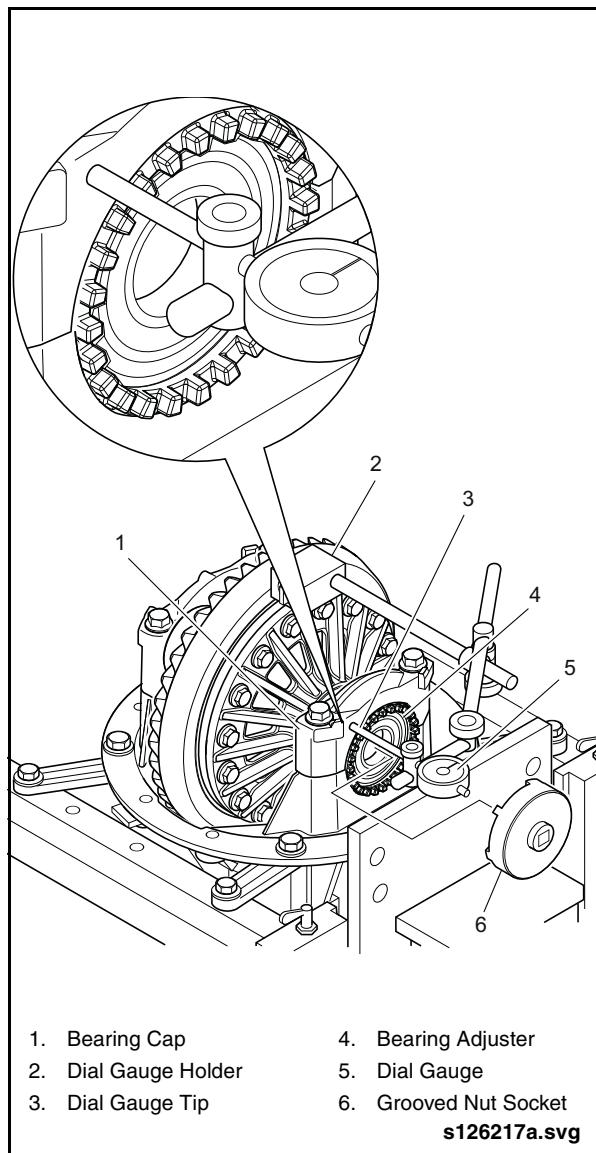

Fig. 2-70: Setting Bearing Preload Adjustment
3. Place Dial Gauge Holder with Dial Gauge (Items 45 & 44 from Special Tools List) on the crown gear. See "Fig. 2-70: Setting Bearing Preload Adjustment" on page 61.